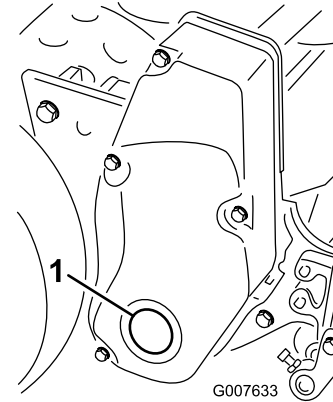

Figure 68
1. Remove the plug in the right reel-drive cover (Figure 68).